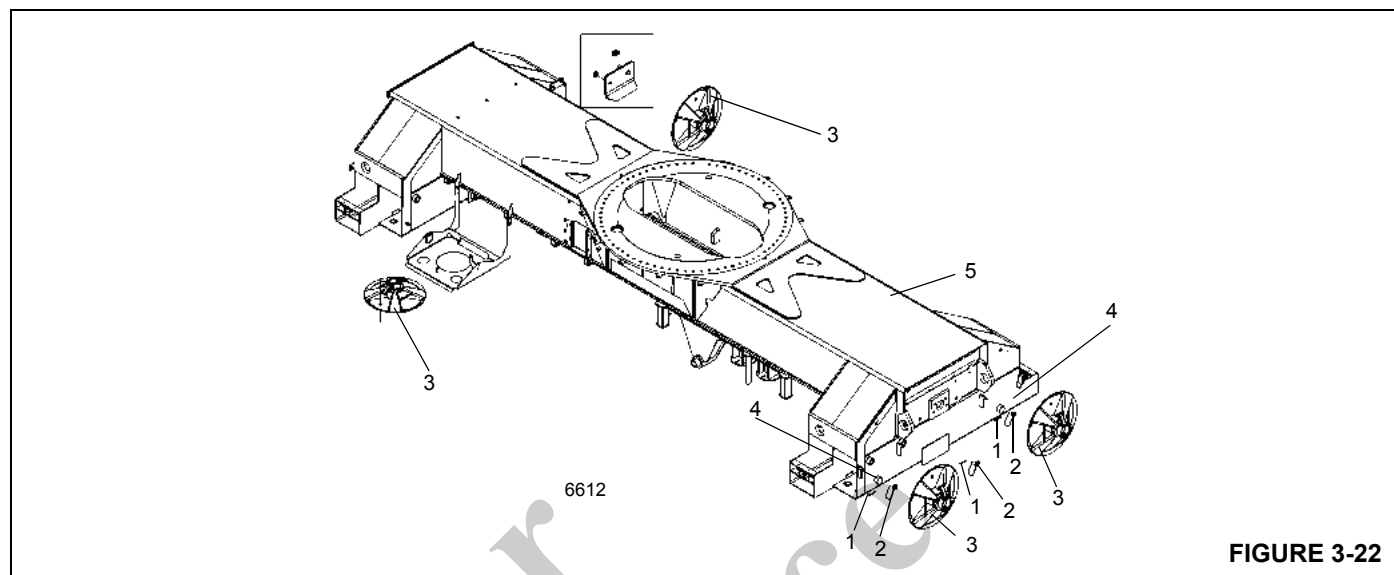

FIGURE 3-22
7. After all outriggers have been fully retracted, stow the outrigger floats. (Figure 3-22) Secure the floats with quick pins and cotter pins.